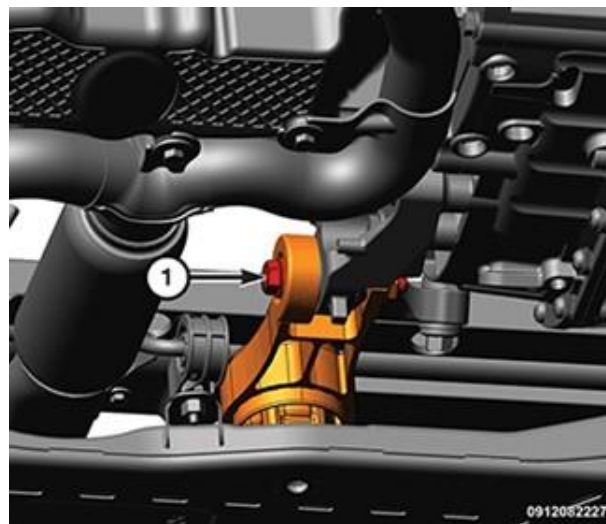

Figure 48 – Rear Transmission Mount
73. Remove the bolt (1) releasing the rear transmission mount (Figure 48).
102. Install the bolt (1) securing the rear transmission mount then tighten to 177 N·m (131 ft. lbs.) (Figure 48).